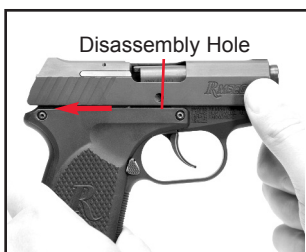

Figure 15
3. Push the Slide rearward, aligning the Unlock Pin with the disassembly hole in the Slide. See Figure 15.
6. Push the Slide rearward, aligning the Unlock Pin with the Slide's disassembly hole. Reference Figure 15.